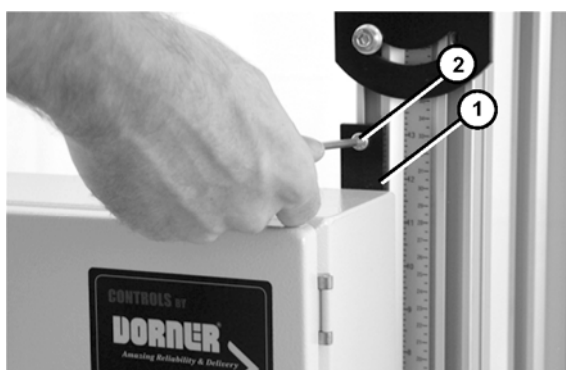

Figure 7
4. Partially thread controller mounting bar (Figure 7, item 1) to top t-nut with screw (Figure 7, item 2).